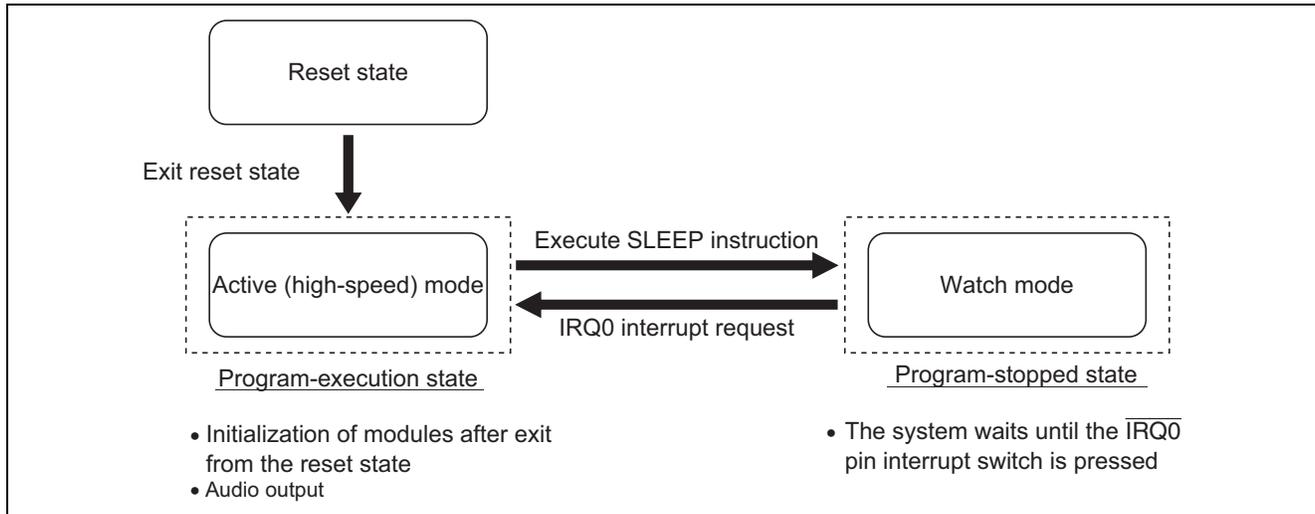

Figure 2 State Transition Diagram
(7) In this sample application, all modules are initialized after release from the reset state; the chip is then placed in watch mode. Pressing the switch connected to the $\overline{\text{IRQ0}}$ pin initiates a transition from watch mode to active mode (high-speed mode) in which audio output is performed. Once the audio output is completed, the chip reenters watch mode and again waits until the switch connected to the $\overline{\text{IRQ0}}$ pin is pressed. A state transition diagram for this sample task is given as figure 2.